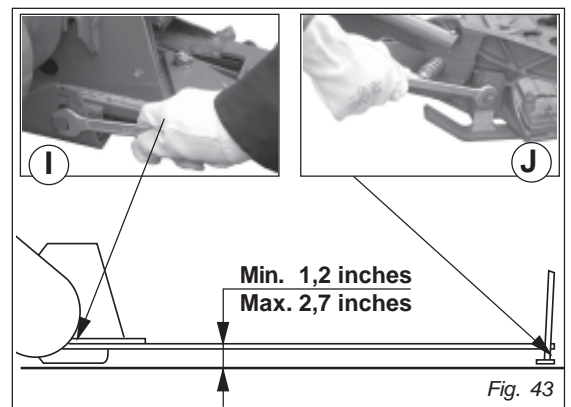

Fig. 43
- Adjust the cutting height (Fig. 43) by moving the mowing bar on the holes of the inner mowing bar support (I), and, turning the nut of the outer mowing bar support (J), bring it level with the ground.